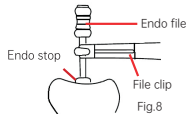

Fig.8
- 7.2.5. When the file reaches this point, adjust the endo stop and remove the file. By measuring the distance between the endo stop and the tip of the file, the working length of the canal can be determined. (Fig.8)